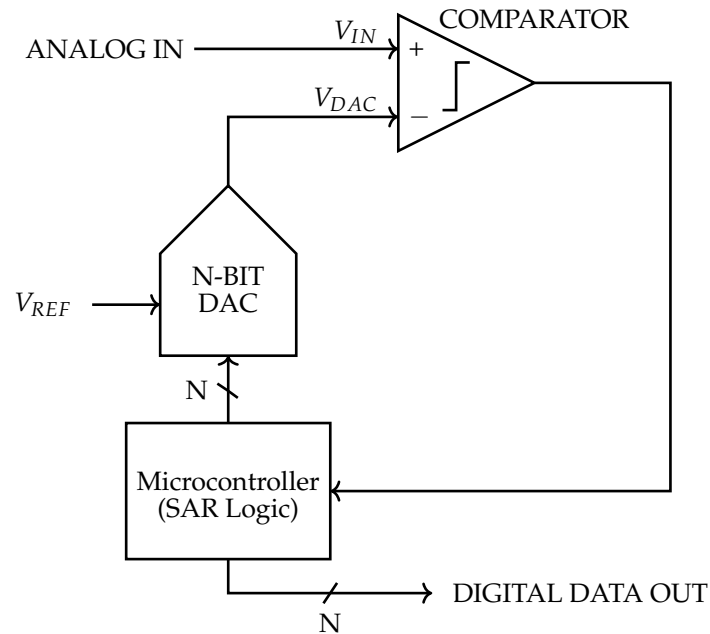

Figure 9: SAR ADC circuit diagram
Figure 9 illustrates a high-level circuit diagram of a SAR ADC. The analog input voltage is one of the inputs to the comparator. The other comparator input, V_{DAC} , is the DAC voltage output, i.e. the analog representation of your code/guess. The comparator compares these two values and outputs a logical high (1) if $V_{IN} \geq V_{DAC}$ or a logical low (0) if $V_{IN} < V_{DAC}$. This comparator decision then feeds into the SAR logic, implemented in a microcontroller in this case. This logic is basically the brain that implements the binary search pattern, deciding which bits in the code need to be changed. The updated code then propagates back to the DAC, which updates V_{DAC} , and the cycle continues N times. Once this is done, the final N -bit output code comes out of the register storage units for use by other circuits. If you're wondering what V_{REF} does for the DAC, recall from Homework 1 that it tells
We will now analyze the operation of a 4-bit SAR ADC with the input voltage range between 0 V and 5 V and output code range between 0000 (0) and 1111 (15). In other words, V_{REF} is 5 V and $0 V < V_{in} < 5 V$ in Figure 9.